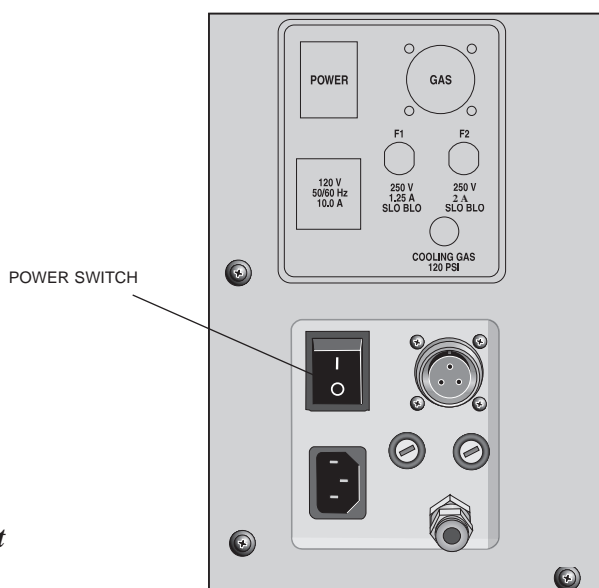

Figure 2.8
1. Make sure the 2010 CE instrument POWER switch (see Figure 2.8) is in the OFF (O) position.